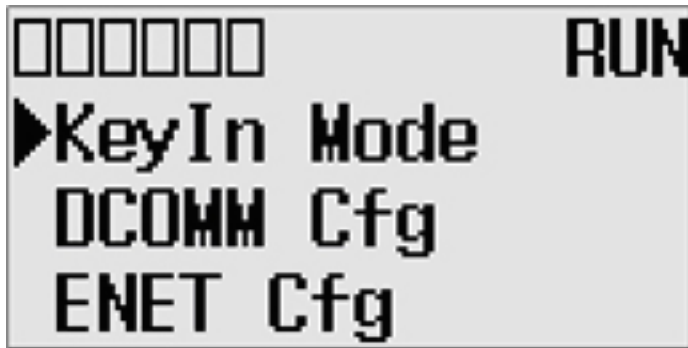

Figure 4 LCD Advanced Settings Menu, Page 1
3. Press the “OK” button on the LCD Keypad. The Advanced Settings Menu screen is now displayed (refer to Figure 4 LCD Advanced Settings Menu, Page 1).